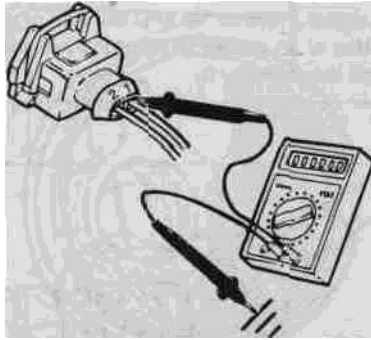

Fig. 18. Checking power to injector with ignition on Check at red-blue wire of connector
2. If the light doesn't flash or there is no voltage, check for power to the injector. There should be battery voltage (+) at the blue/red wire of each injector connector with the ignition key on. See Fig. 18. If not, check the wiring to the injector using the wiring diagrams listed in **371 Wiring Diagrams, Fuses and Relays**.